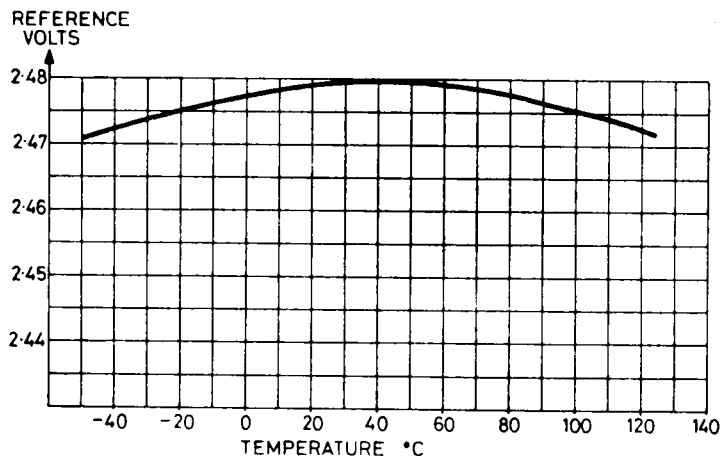

Fig. 6 Typical reference voltage v temperature (all types)
6. For typical temperature performance, see Fig. 6.